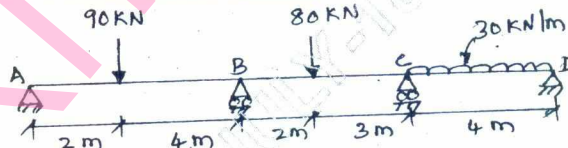

Fig.Q3
- 3 Draw the bending moment diagram for the beam loaded as shown in Fig.Q3 when support B sinks by 10 mm below the levels of A, C and D. Assume $E = 200 \text{ GPa}$, $I = 132 \times 10^6 \text{ mm}^4$ for all the members. Use the moment distribution method. (20 Marks)